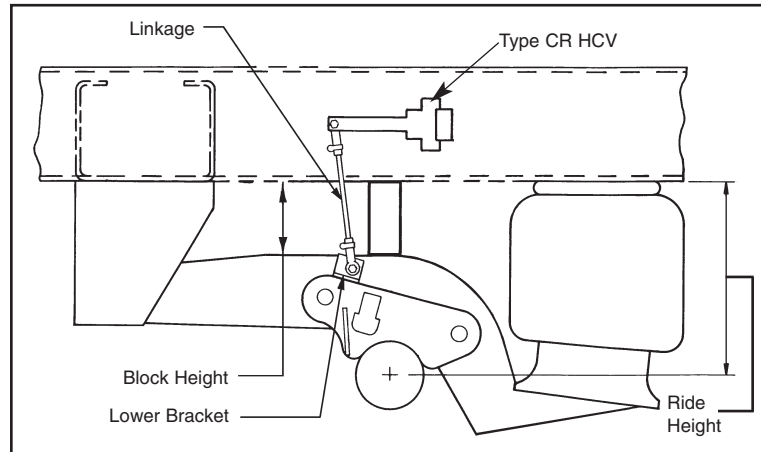

Figure 3. Block Height
7. Raise the suspension by moving the control arm of the Height Control Valve up. Either place spacer blocks between the frame and axle or jack stands between the vehicle frame and ground. (Figure 3 and 4)